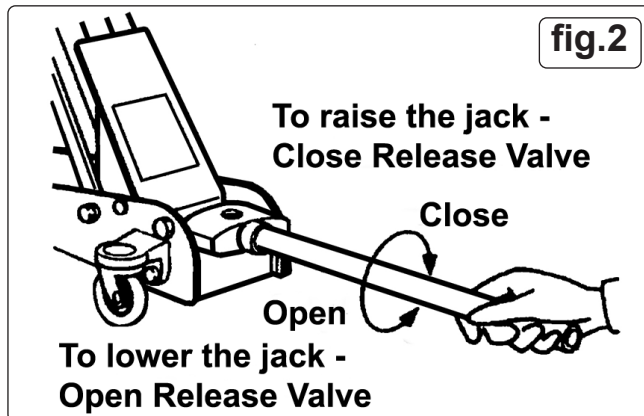

fig.2
4.6.7. Turn the slow release valve clockwise, to the closed position (FIG.2).